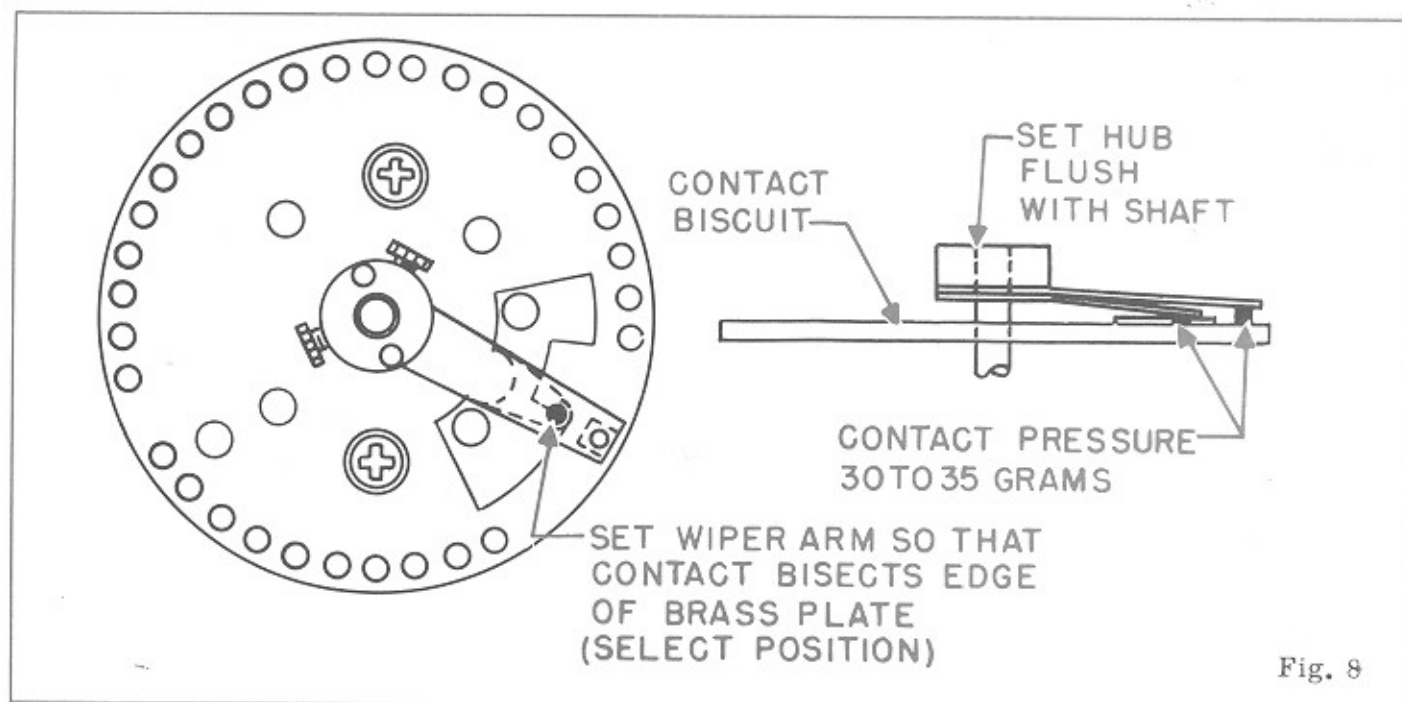

Fig. 8
2. Set wiper arm on the gear motor shaft so that the center of the contact of the short wiper arm rests on the edge of the lower left side of the "U" position of the contact plate. Set hub flush with shaft. (See Fig. 8.)
3. Tighten the set screws in the collar of the contact wiper arm, and adjust the contact wiper arm pressure to approximately 40 grams on both contacts. (See Fig. 8.)
4. The motor switch pressure is 35 grams minimum. The switch should be adjusted to open when the center of the contact of the short wiper arm comes to rest about 1/8" before it reaches the edge of the lower left side of the "U" position of the brass contact plate. (See Fig. 8.)